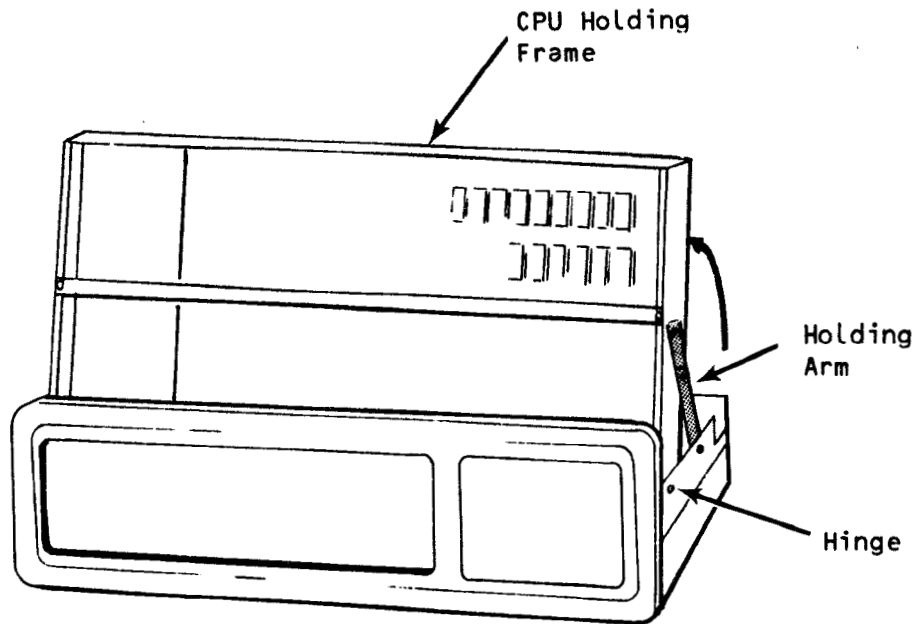

FIGURE 6. Raising the CPU board
5. Lift the AM-1000 CPU Holding Frame, pivoting on its hinges to full extension of the Holding Arm. Make sure the elbow on the Holding Arm is locked in place. (See Fig. 6)
7. Gently lift the CPU holding frame and CPU board from the rear of the AM-1000. It will pivot upward and forward on its hinges. Engage the holding arm to keep the frame up (Figure 6).